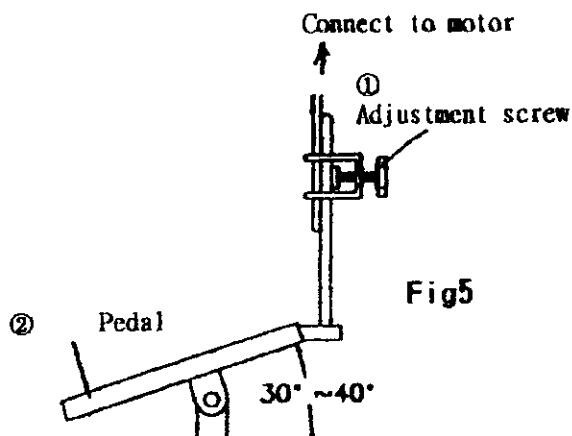

Fig5
- 2) The best angle of the foot pedal (2) installation is 30-40
- 3) The angle of the foot pedal can be adjusted by loosing the adjustment screw (1), as shown in fig.5